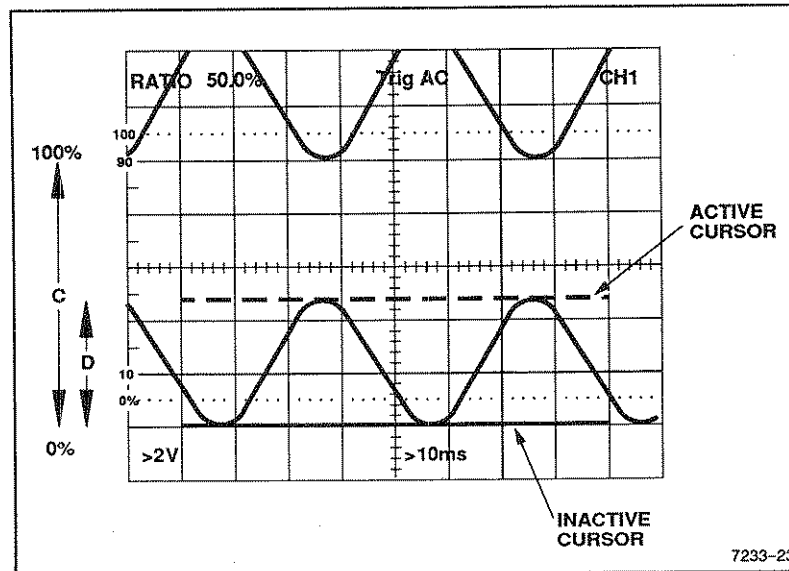

Figure 6-11. Percentage Modulation.
4. Using the VOLTS/DIV and Vertical position controls, position the waveform such that dimension C (see Figure 6-11) is equal to 100%.
6. Position the cursors, using the Cursor Position control, as shown by dimension D in Figure 6-11.